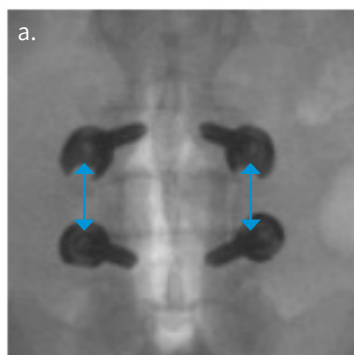

Figure 3a: AP view of symmetrically-placed pedicle screws
- iii. When this is achieved, the pedicle screws appear symmetrical on imaging (Figure 3a). The left and right interpedicular distances must be symmetrical for TOPS Motion Implant insertion (See images of Antero-Posterior (AP) and Lateral views of TOPS Motion Implant placed symmetrically pedicle screws in Figure 3b and Figure 3c, respectively).